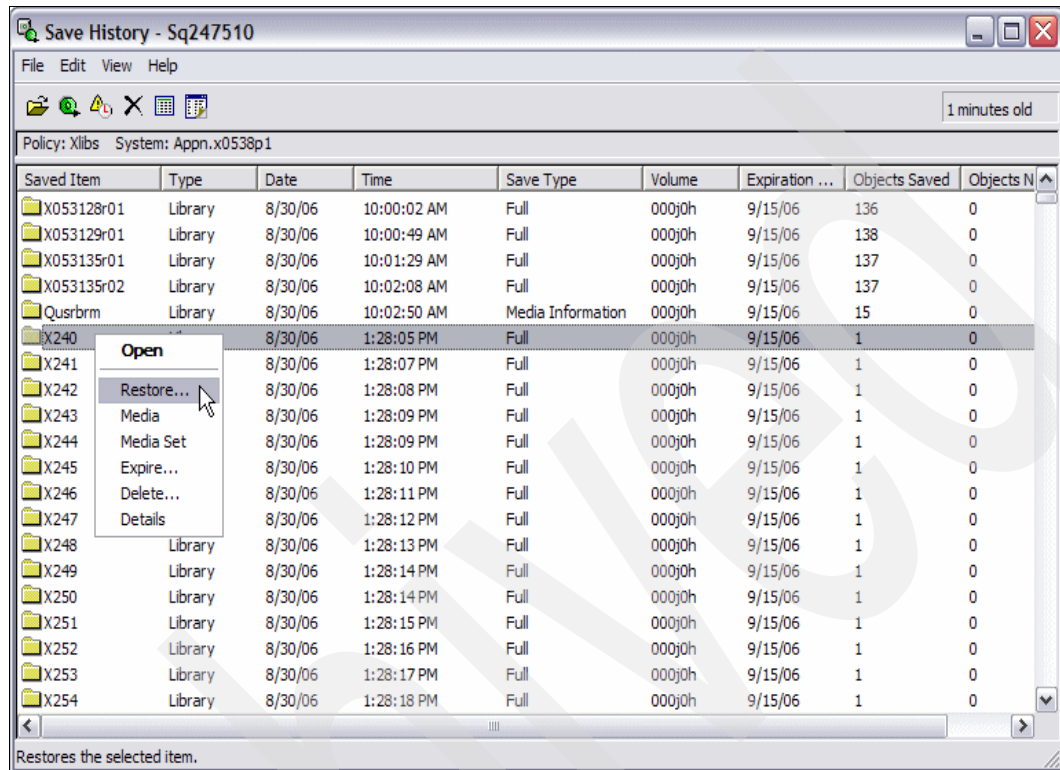

Figure 6-97 Save History
4. Figure 6-97 shows the next window, which lists all the objects saved and the save result. Right-click the objects that you want to restore. In our simple example, we select **X240**. Select **Restore**.